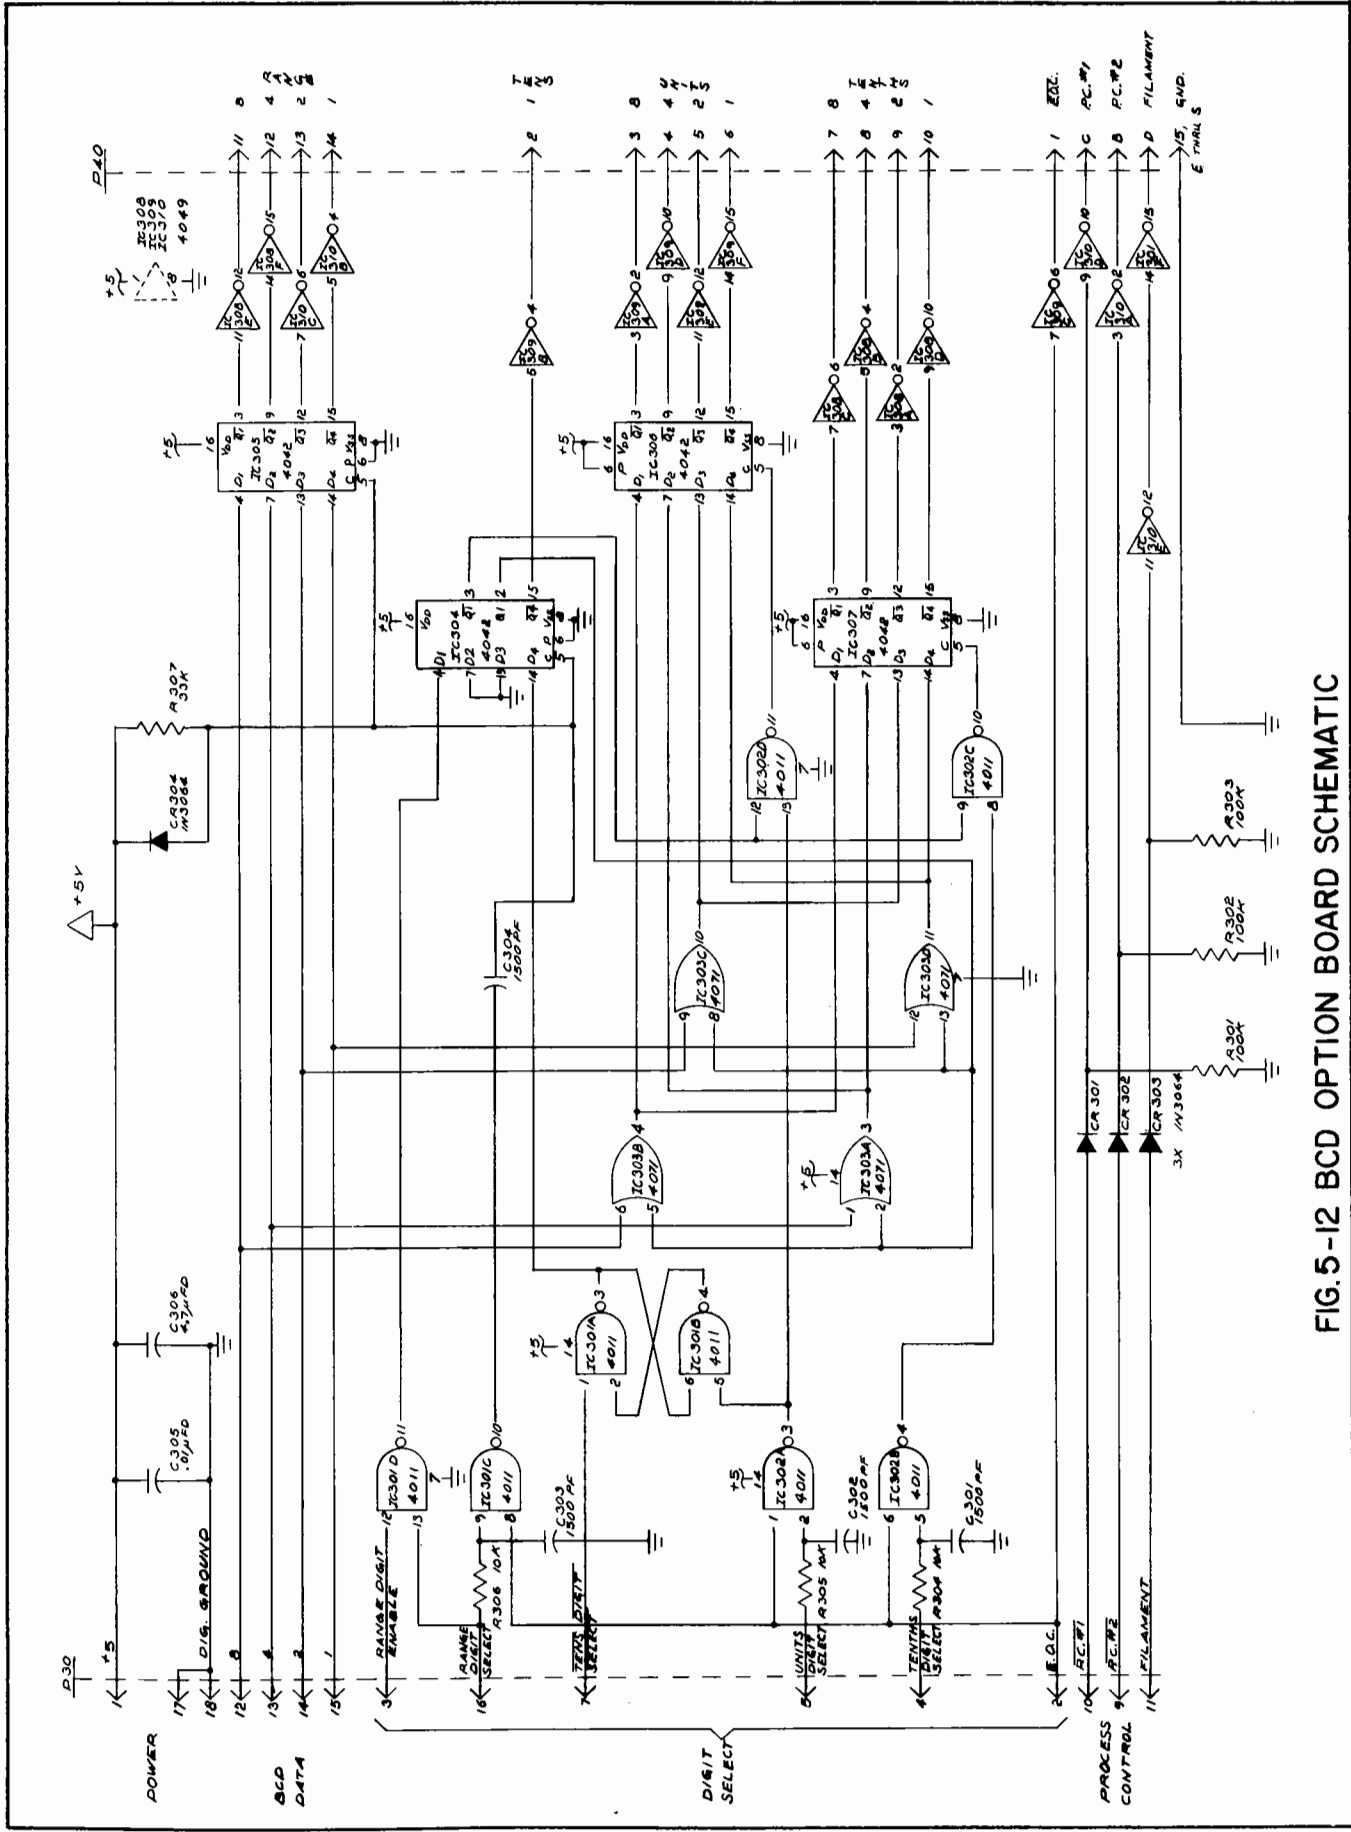

FIG. 5-12 BCD OPTION BOARD SCHEMATIC
5.15 Digital BCD Output Option (Refer to Fig. 5-12)